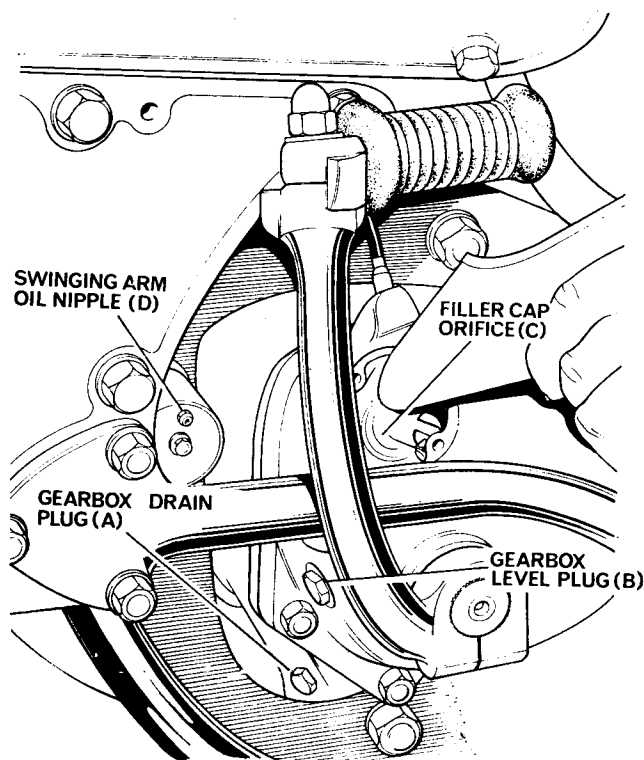

Fig. K6 Gearbox drain and level plugs
An oil level plug is fitted in the gearbox cover (see Fig. K6).
To check level, remove plug (see Fig. K6, item B) whereupon oil should seep gently out if level is correct. If topping up is necessary, remove the filler cap (see Fig. K6, item C) and replenish with correct grade of oil until the oil begins to seep from the level plug orifice. Replace the filler cap and the level plug.
The gearbox oil should be changed after a run so that the warm oil flows more freely (see Fig. K6). Remove the filler cap and drain plug (A) and drain the oil into a suitable container. Replace the drain plug and fill the gearbox through the filler cap orifice (C). Allow time for oil to pass through the inner cover into the shell. When the level plug is removed, oil should run from the level plug hole (B). Allow the surplus oil to drain off and replace the level plug and filler cap. If this method is not followed a false level indication will be gained.